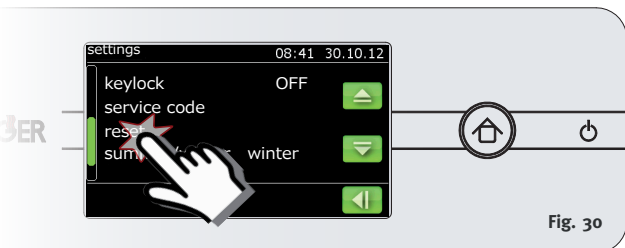

Fig. 30
1. Select Settings --> Reset in the main menu (Fig. 30).